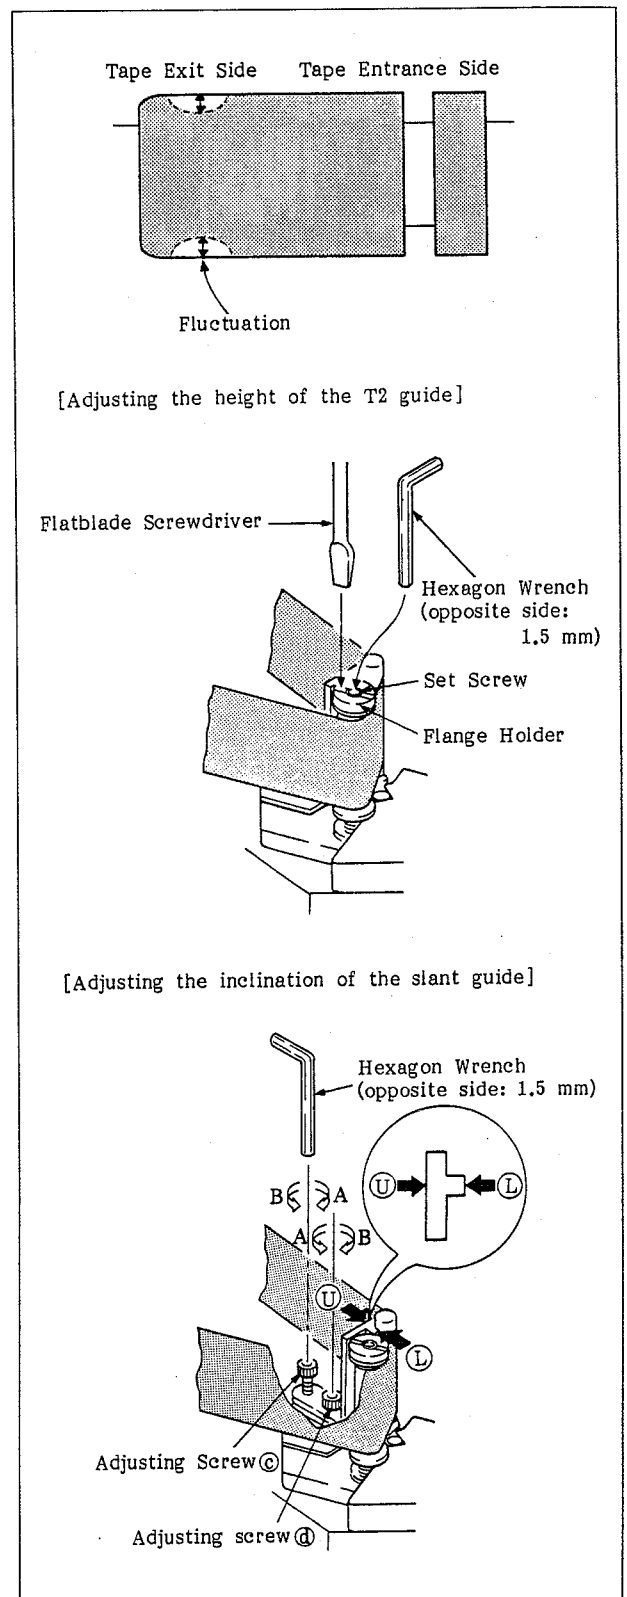

**Fig. 9-13 Adjustments of the Height of the S2 Guide and the Inclination of the Entrance Slant Guide**
13. Find the place where the RF waveform becomes flat by pressing the portion (U) or (L) shown in the lower portion of Fig. 9-13.
14. If the RF waveform becomes flatter when the portion (L) is pressed, turn the inclination adjusting screws (a) and (b) in the A direction, and if the RF waveform becomes flatter when the portion (U) is pressed, turn the inclination adjusting screws (a) and (b) in the B direction to flatten the RF waveform and minimize the fluctuation.
22. Find the place where the RF waveform becomes flat by pressing the portion (U) or (L) shown in the lower portion of Fig. 9-13.
23. If the RF waveform becomes flatter when the portion (L) is pressed, turn the inclination adjusting screws (c) and (d) in the direction of B, and if the RF waveform becomes flatter when the portion (U) is pressed, turn the inclination adjusting screws (c) and (d) in the direction of A to flatten the RF waveform and minimize the fluctuation.